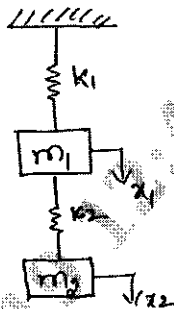

Fig.Q6
- 6 A two degree freedom system shown in Fig.Q6 has mass  $m_1 = 2 \text{ kg}$ ,  $m_2 = 2 \text{ kg}$ ,  $k_1 = 40 \text{ N/m}$ ,  $k_2 = 20 \text{ N/m}$ . Determine two natural frequencies of vibration and mode shapes.